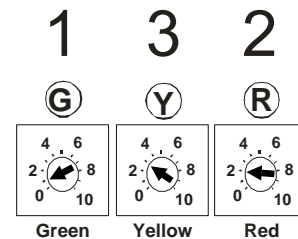

FIGURE 6
8. Remove the door from the Fi2000 module to expose the LED's. **NOTE:** The Fi2000 base pot settings come preset from the factory for the Raider, shown in Figure 6. Verify the wire connections by, (1), turning the ignition on while watching the 3 LED's. They will all light up for a few seconds, and then go off. This is correct. If there are no lights visible, make sure the side stand is up, bike is in neutral, clutch is in and handlebar engine switch is set to run. If there are still no lights visible, re-check that all connectors are fully engaged and the ground wire is connected correctly. (2), after achieving a steady light from all three LED's, start the motorcycle; the green light should now be the only LED on. If all three LED's are still on after start up, verify the injector connectors are correctly attached. Reattach the access door when finished and install the remaining components. **NOTE:** Make sure the ignition is turned off before changing any connections.